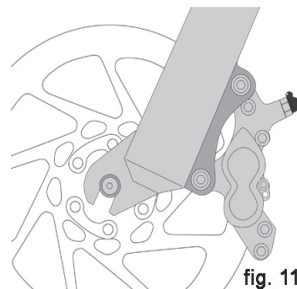

fig. 11
3. Some bicycle brakes, such as disc brakes (fig. 11) and linear-pull brakes (fig. 12), are extremely powerful. Take extra care in becoming familiar with these brakes and exercise particular care when using them.